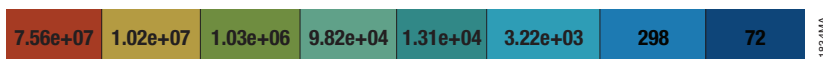

Figure 46. Results plate map with heat map display (Panel A) and example of heat map colors applied to the results in the plate map (Panel B).
- Once the protocol is finished, results are shown in a heat map format to indicate wells with higher or lower signals in comparison to the entire plate (Figure 46, Panel A). The software automatically scales the color selection, assigning the highest values red and the lowest values blue, along a gradient (Figure 46, Panel B). To turn off the heat mapping of the data, touch the small plate map button at the top right side of the information bar above the data plate map. Touch the ellipsis to the left of the small plate map button to enter notes that will appear in the information bar.